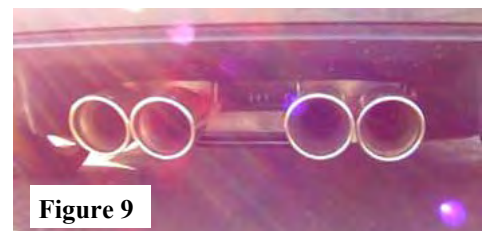

Figure 9
7. Align tips and tighten hardware. Loosen clamps to rotate or slide pipe for better alignment. (See Fig. 9)